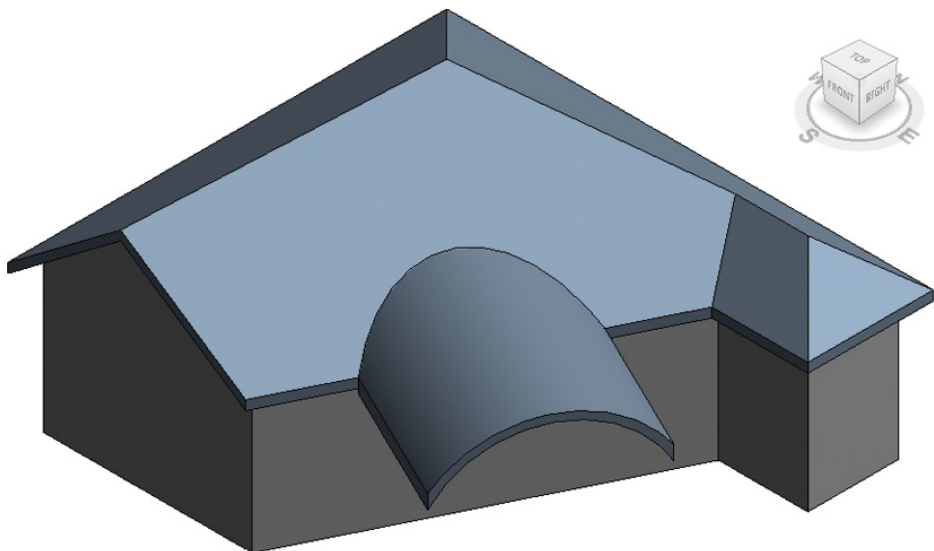

FIGURE 3.27 Joined roofs
8. Select the face of the previously created roof that you want to connect to the extruded roof. The extruded roof now extends back to meet the face of the other roof (Figure 3.27). If either roof is modified, Revit Architecture will do its best to maintain this connected relationship.